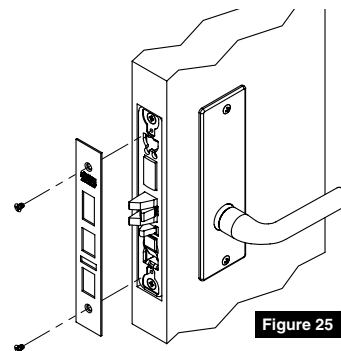

Figure 25
9. Install armored front. (Figure 25)